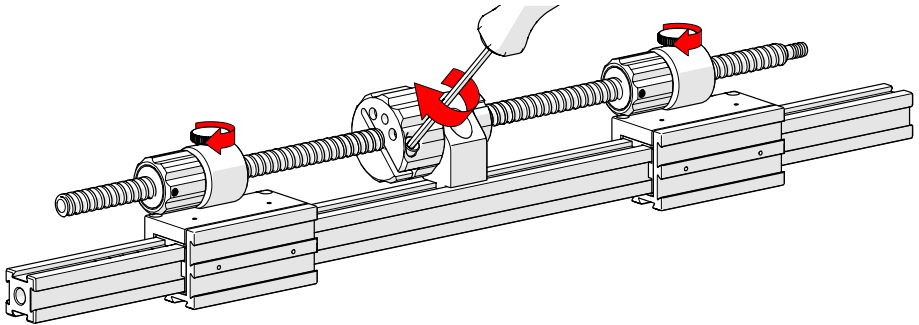

Fig. 142 - Tighten hexagonal screw
5. Tighten the main knob's hexagonal screw (Fig. 142).